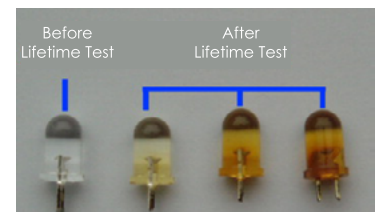

Fig. 1 - Encapsulant Discoloration
- Discoloration of the encapsulant (Fig. 1) and/or lens under high-load conditions may lead to a color shift. Recent advances in materials have significantly reduced this defect in the better-quality products.